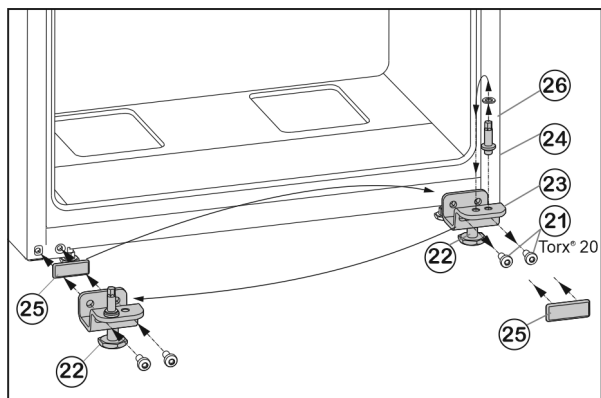

Fig. 7
- ▶ Unscrew fastening screws Fig. 7 (21).
- ▶ Remove the lower bearing block Fig. 7 (23), complete with bearing bolt Fig. 7 (24), washer Fig. 7 (26) and adjustable foot Fig. 7 (22).
- ▶ Unscrew the bearing bolt Fig. 7 (24), complete with washer Fig. 7 (26), re-locate it into the mounting hole on the opposite side of the bearing block and tighten again.
- ▶ Carefully remove the cover plate Fig. 7 (25) and re-locate it to the other side.
- ▶ Screw on the lower bearing block Fig. 7 (23), complete with bearing bolt Fig. 7 (24), washer Fig. 7 (26) and adjustable foot Fig. 7 (22) to the new hinge side, with the help of a cordless screwdriver if necessary, and **tighten (with 4 Nm)** once again.
- ▶ Lower the door from above onto the bearing bolt Fig. 7 (24).
- ▶ Unscrew the adjustable foot Fig. 7 (22) on the lower bearing block Fig. 7 (23) until it touches the floor.